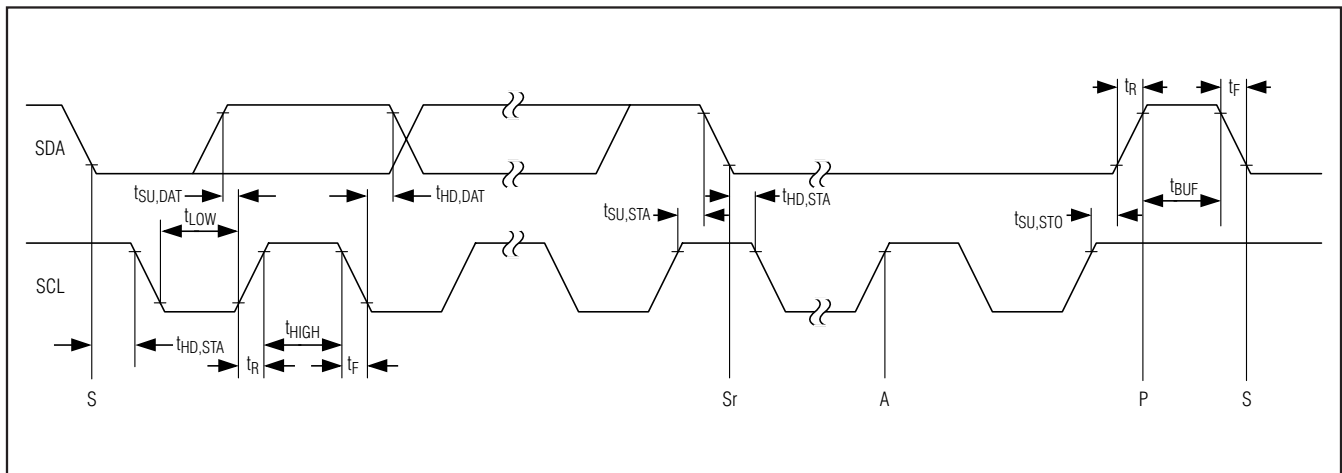
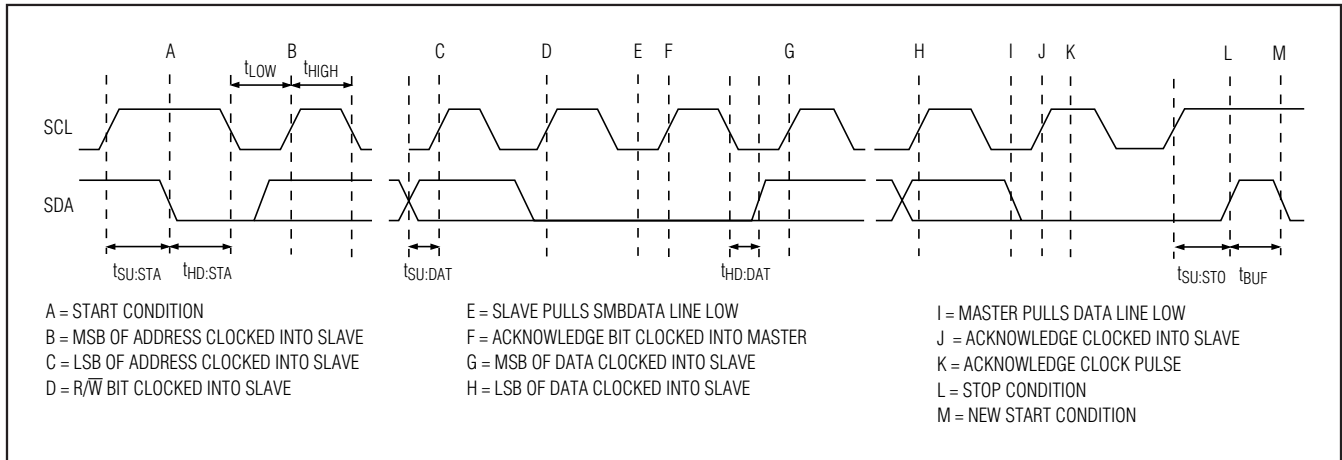

Figure 1.  $I^2C$  Serial Interface Timing
Figure 3. I2C Write Timing Diagram
The master initiates a transmission with a START condition (S), a high-to-low transition on SDA with SCL high. The master terminates a transmission with a STOP condition (P), a low-to-high transition on SDA while SCL is high (Figure 3). The STOP condition frees the bus and places all devices in F/S mode (Figure 1). Use a repeated START condition (Sr) in place of a STOP condition to leave the bus active and in its current timing mode.